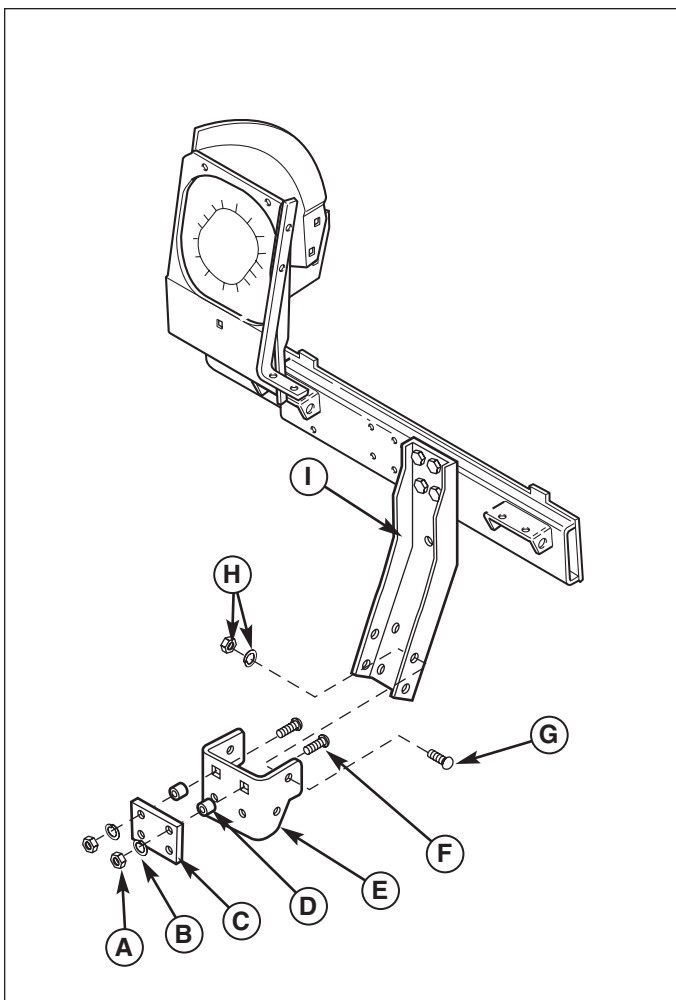

Figure 12. Initial Setup (Prestige Shown)
1. Assemble the lower support (E, Figure 12), spacers (D), and plate (C) as shown.
2. Bolt the lower plate assembly (E) to the upright support (I) using four 3/8-16 x 3/4 carriage bolts (G), lockwashers, and 3/8-16 nuts (H).